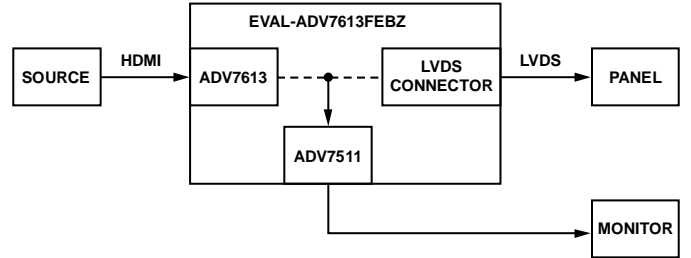

Figure 7. Evaluation Board Set Up for Controlling with XRC
2. Implement the set up as shown in Figure 7. Note each of the necessary connections and the removed jumpers